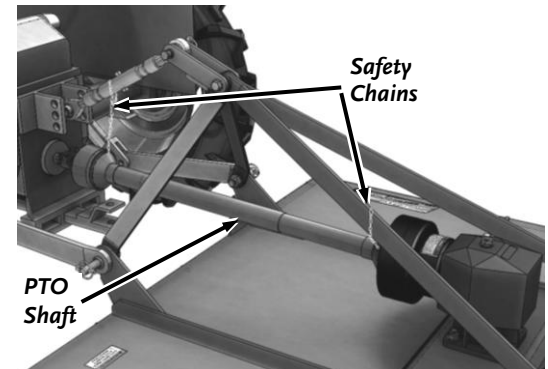

Figure 21
3. Attach the PTO Shaft Safety Chains around a solid area of the 3-Point Link Rods with the Chain ends attached to both ends of the PTO Shaft Guard (**Figure 21**). Make sure the Chain has enough slack in the full range of the Tractor 3-Point Arm travel.